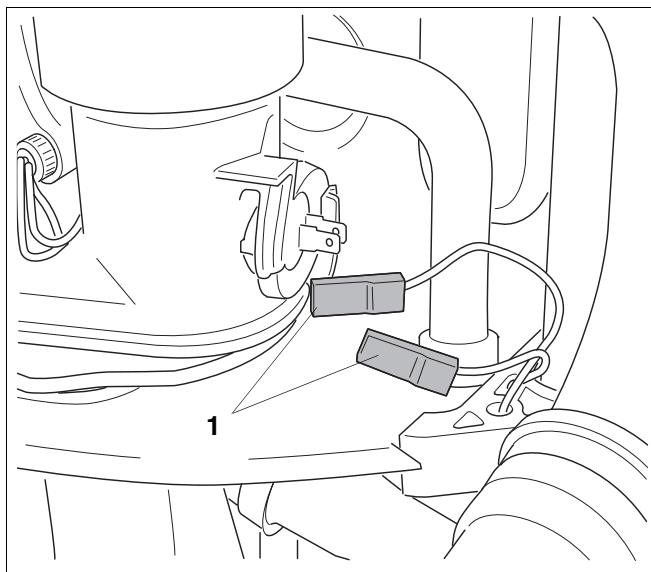

fig. 58 Remove plugs from flue gas thermostat
- Remove both plugs from the flue gas thermostat (see fig. 58, item 1).